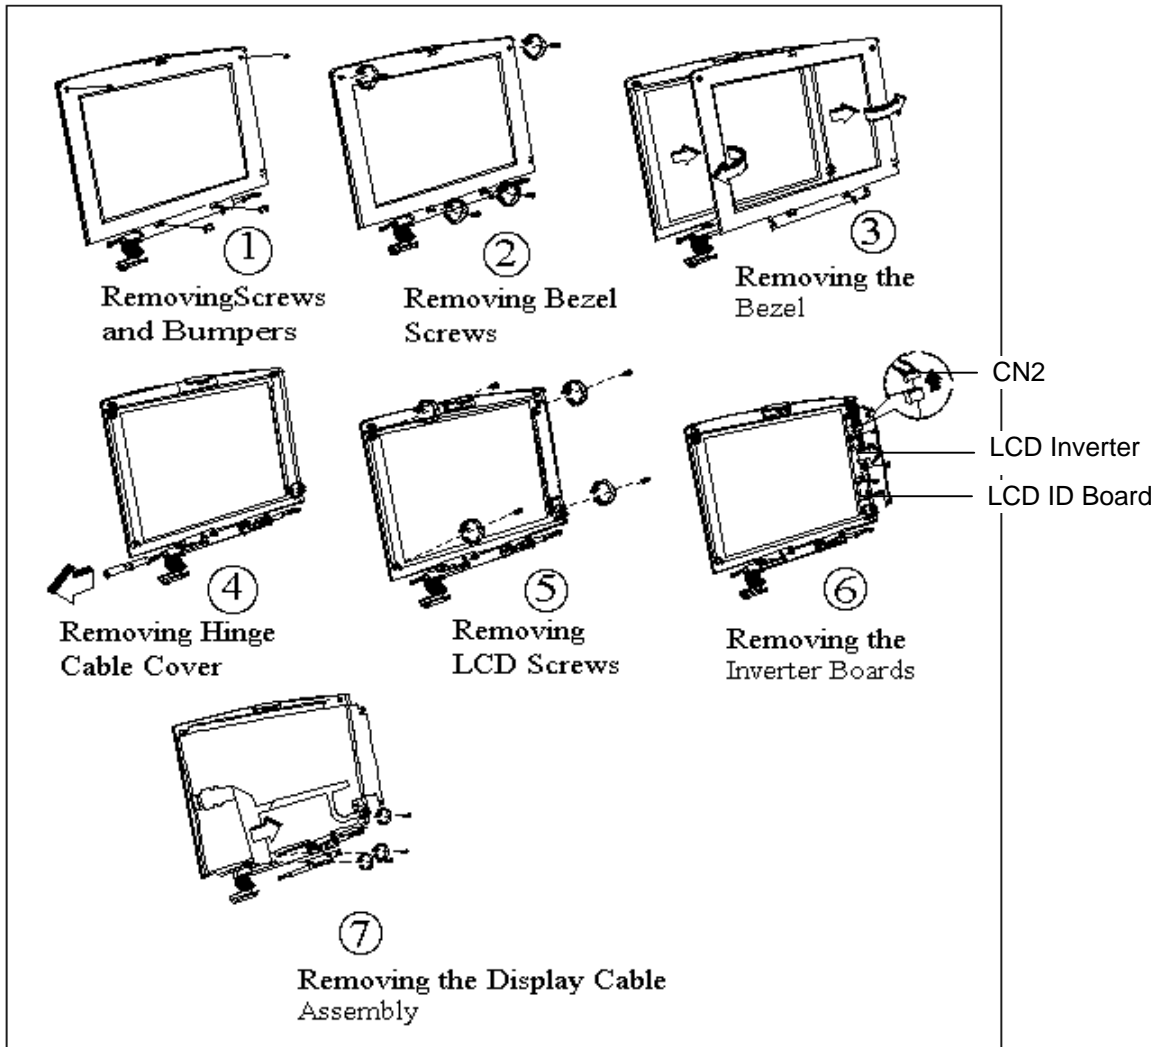

Figure 6-24 Display Unit Disassembly
2. Remove the round LCD bumpers at the top of the display (refer to Figure 6-24).
4. Remove four screws on the Display Bezel (Figure 6-24).
2. Gently fold back the foil around the LCD and unplug Inverter Cable CN2 (refer to Figure 6-24).
2. Slide out and remove the Hinge Cable Cover (Figure 6-24).
3. Remove four screws on the four sides of the LCD panel (Figure 6-24).
6. Refer to Figure 6-24 and tilt the LCD panel away from the Display Cover.